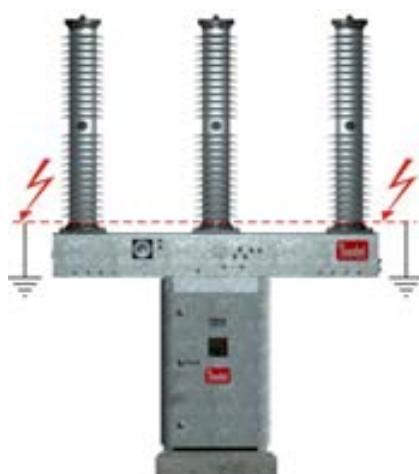

Fig.11 Partes activas en tensión / Active parts high voltage / Parties actives sous tension
- The circuit breaker can have active parts under high voltage. Use extreme precaution with distances to high voltage points. Do not place tools on top of the chassis. See fig 11.
- Attention extrême aux distances au points de tension. Ne pas poser des outils sur le châssis. Observer la figure 11